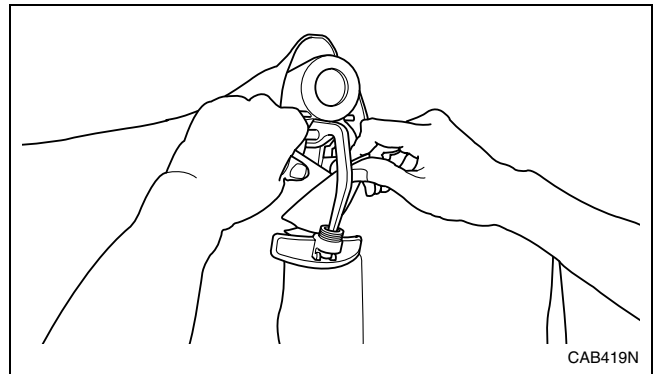

Figure 7
4. Depress collar clamp foot pedal to open collar clamp. Slide index finger of each hand along neck band from the top down to the points of the collar. Guide left collar point under right point. Butt neck band ends together. Do NOT overlap band ends except for large size shirts. Refer to *Figure 7*.